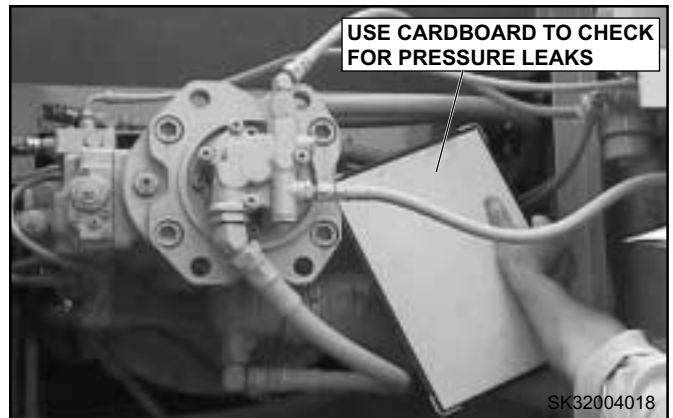

FIGURE 4.17B
1. Check complete hydraulic system for leaks. Use a small piece of cardboard when checking areas with high pressure. See Figure 4.17B.